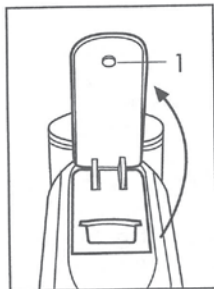
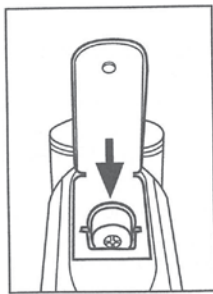

Fig. 6
Fig. 7
- Lift the control lever (1) completely (Fig. 6) and insert a capsule in the space provided. (Fig. 7)